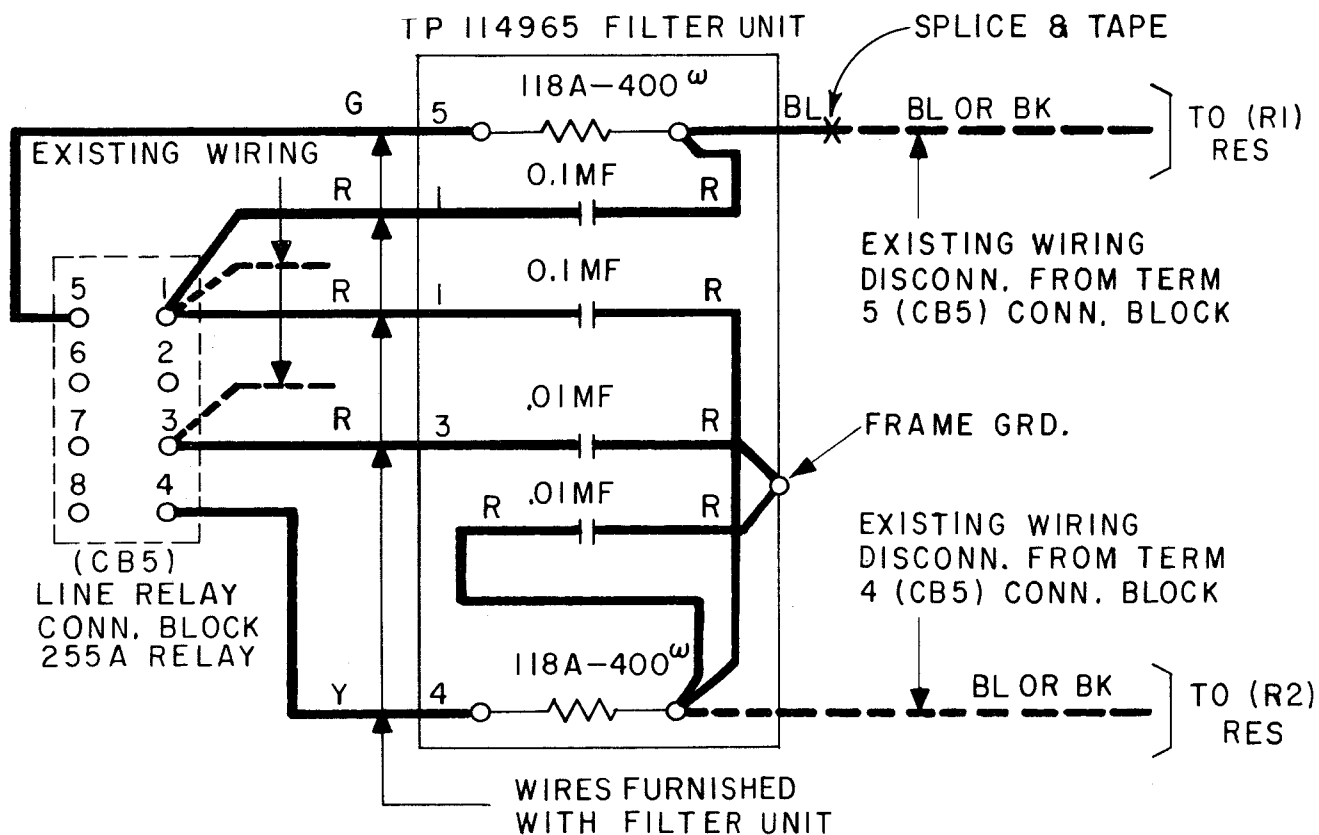

Figure 1
2.02 Connections for Neutral Operated Line Relay are as follows (see Figure 1): For left-hand, right-hand, upper and lower, front and rear locations specified in the following text, refer to the observer's left or right when viewing the teletypewriter base from the position of an operator.